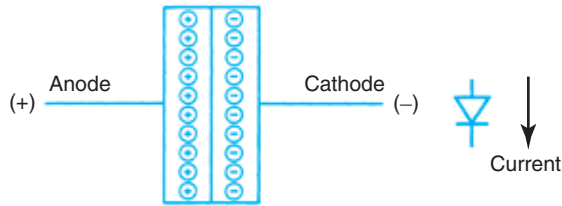

Figure 10-10. Diode triangle.
Diodes allow current flow in only one direction. In Figure 10-10, the triangle in the diode symbol points in the direction current is permitted to flow using conventional current flow theory. Inside a diode are small positive (P) and negative (N) areas, which are separated by the thin boundary area called the PN Junction. When a diode is placed in a circuit with the positive side of the circuit connected to the positive side of the diode, and the negative side of the circuit connected to the negative side of the diode, the diode is said to have *forward bias*. As an electrical one-way check valve, diodes will permit current flow only when correctly polarized. Diodes are used in AC generators (alternators) to produce a DC characteristic from AC and are also used extensively in electronic circuits.